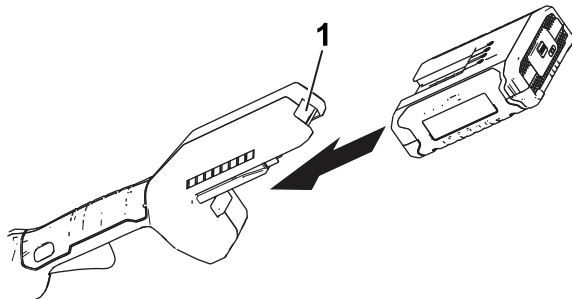

Figure 7
2. Align the cavity in the battery pack with the tongue on the handle housing (Figure 7).
3. Push the battery pack into the handle until the battery locks into the latch (Figure 7).